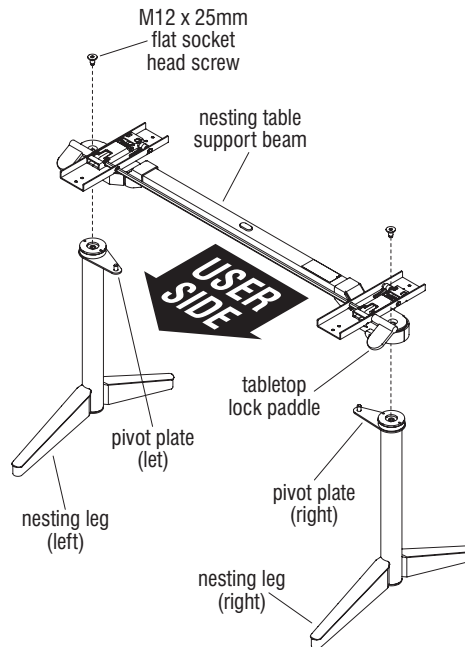

Figure 1 - Leg Installation
2. Locate the nesting table support beam assembly and position it so the tabletop lock paddles face the "user side" as illustrated. Choose one nesting leg and identify if it is right- or left-hand by the letter under the pivot plate, then stand it upright. Position the nesting leg such that the pivot plate nests into the mounting location in the beam assembly at the correct left or right-hand location as illustrated using an 8mm Allen wrench. Twist in a M12 x 25mm flat socket head screw through the top of the nesting table support beam and into the top of the nesting leg being installed, but do not tighten at this time. Repeat the process to loosely attach the second leg to the support beam. Once both legs are under the support beam, use a 3/4" open end wrench to hold (but do not turn) the nut at the underside of each leg upright. Using an 8mm Allen wrench at the top, tighten the M12 x 25mm flat head screw to secure. Do not turn or tighten the nut at the bottom of the nesting legs. Repeat the process above to tighten the other leg to the support beam at the top (Figures 1 & 2).